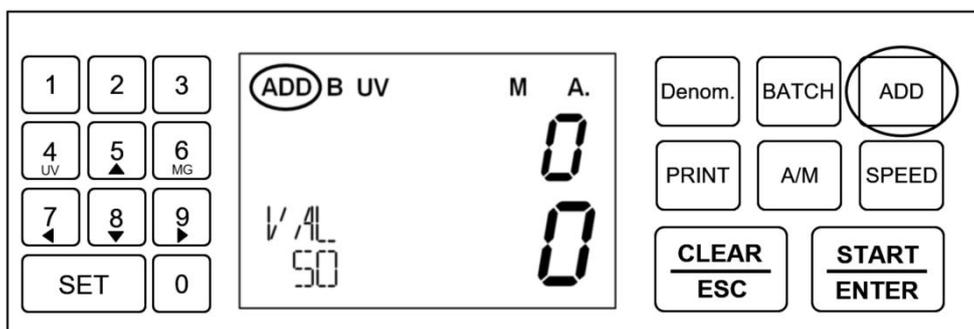

Figure 67
- 2) Under the main interface of the machine, press the "ADD" button on the right side, and the "ADD" character appears in the upper left corner of the machine to indicate that the accumulative function is turned on. As shown in Figure 67 below: